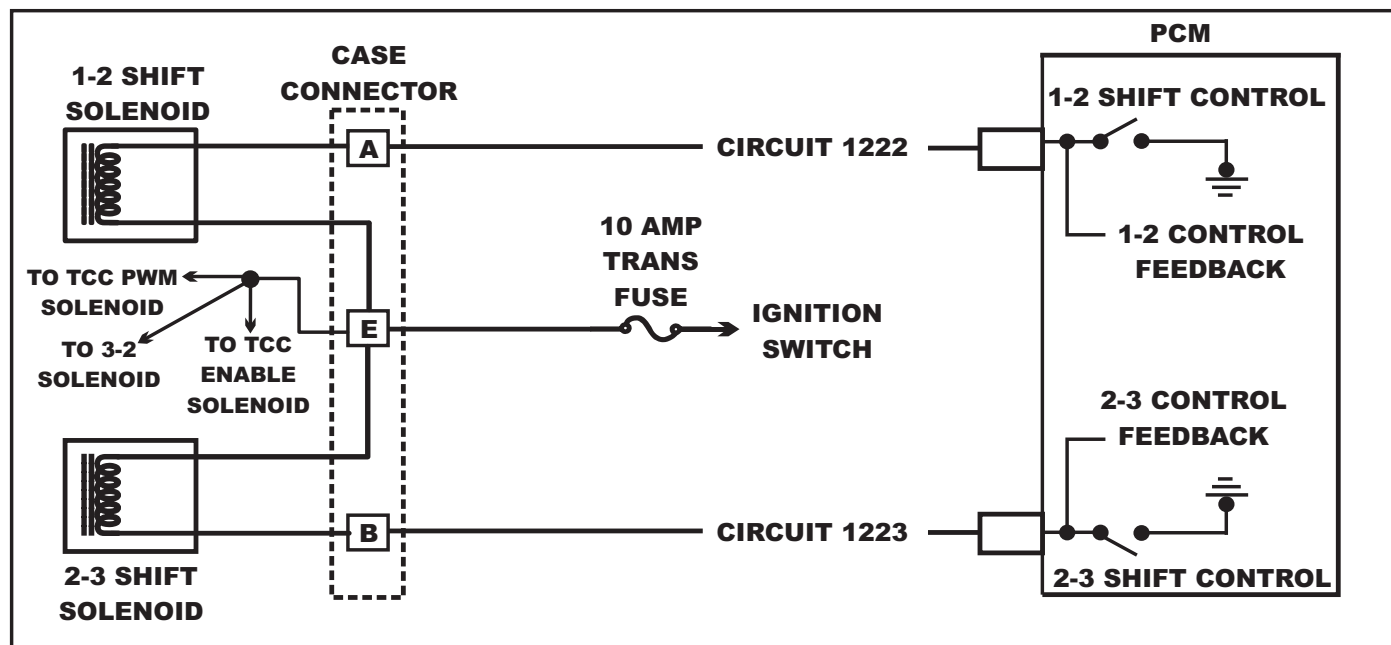

Figure 122
- When checking circuits for damage, use the wire diagram in Figure 122 to identify these circuits. In most applications the 1-2 Shift Solenoid external wire color will be Light Green and the 2-3 Shift Solenoid external wire color will be Yellow/Black. The solenoid power supply wire at Terminal "E" will be Pink except 1991 to 1993 4L80E which will be Pink/Black and is located at case connector terminal "C", Refer to Figure 122 for case connector terminal location.